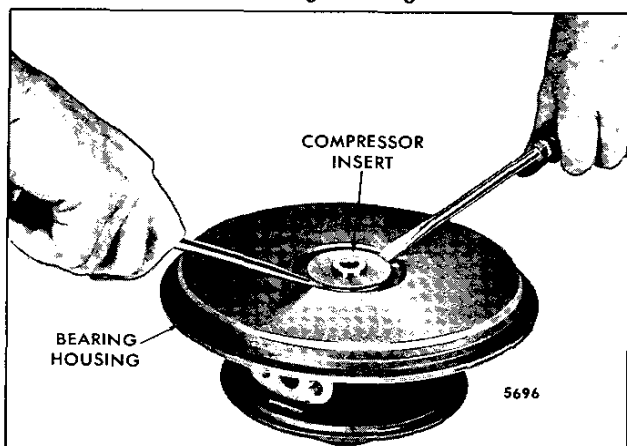

Fig. 8 – Removing Compressor Insert from Bearing Housing
8. Remove the compressor insert from the bearing housing by prying evenly and gently with screw drivers placed under the lip of the insert (Fig. 8).